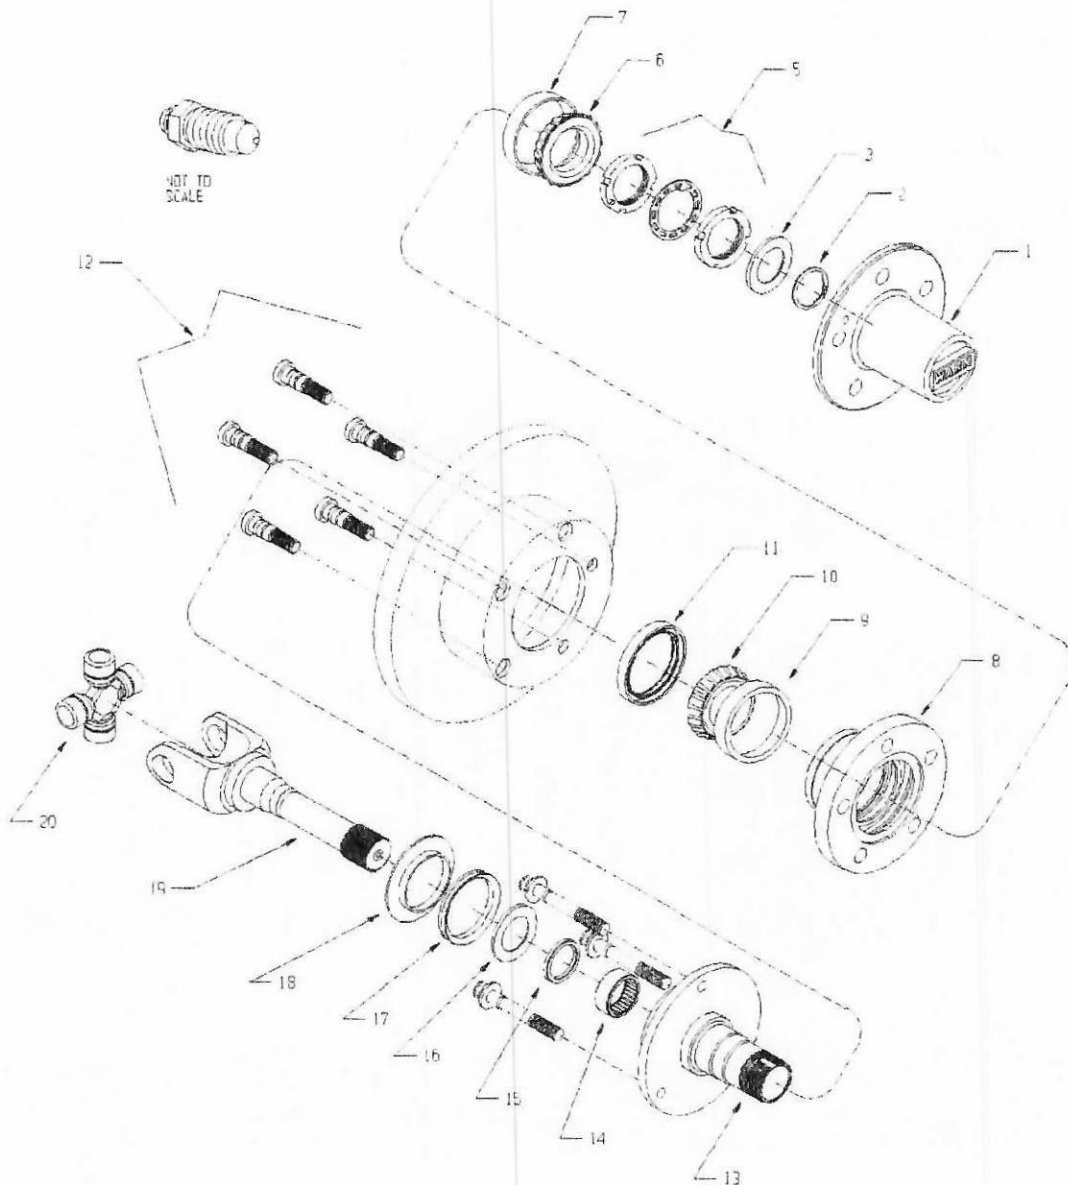

Figure 3. Front axle wheel hub conversion kit. Parts not included in kit are drawn with dashed lines
This sheet provides guidelines to install the WARN Front Wheel Hub Conversion Kit (Figure 3). There are NOTES, CAUTIONS, and WARNINGS which should be followed during installation to avoid possibility of personal injury or damage to the vehicle. During installation, standard safety precautions and equipment should be used where appropriate. Because the skill and experience of the installer and the tools used can vary widely, it is impossible to anticipate all conditions under which this installation is made or to provide cautions for all possible hazards. If your installation varies from the instruction, you must be completely satisfied that your safety or the operation of the vehicle will not be compromised.
PARTS LIST (included in kit) (Refer to Figure 3 for Item #)
13. Place thrust washer I.D. chamfer side towards Yoke. See figure 3, Flag 16.
14. Place V-seal (thick side towards yoke) on axle shaft. See figure 3, Flag 17.
See figure 3, Flag 15.
1. Inspect inside of wheel hub and clean if necessary. (See Figure 3, Flag 8.)
3. Thread inner nut with pin (Figure 3, Flag 5) on to spindle.
NOTE: Pin on nut should face outboard (Figure 3, Flag 5)
7. Install lockwasher on spindle. See Figure 3, Flag 5.
NOTE: Align tab on washer with spindle keyway (Figure 3). See Flag 5A and Flag 13A.
NOTE: Pin on inner nut must fit into A slot on washer. If it does not, flip washer over and reinstall (Figure 3, Flag 5)
8. Thread outer nut on spindle. See Figure 3, Flag 5.
2. Install Hub assembly (Figure 3, Flag 1) onto wheel hub aligning over wheel studs.